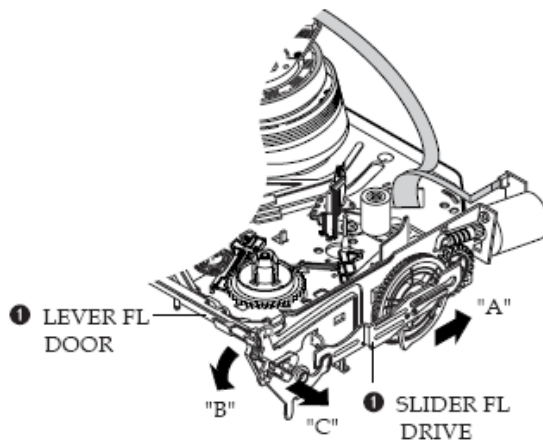

Fig. 3-13 Lever Door Removal
- 1) Pull the Slider FL Drive ❶ to the front direction.
- 2) Remove the Slider FL Drive ❶ in the direction of arrow. (Refer to Fig. 3-13)
- 3) Remove the Gear FL cam ❷.